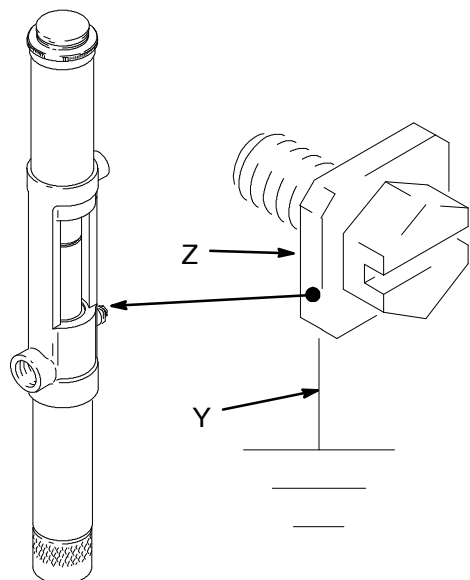

Fig. 2
- *Pump:* Use a ground wire and clamp as shown in Fig. 2.
**To ground the pump,** remove the ground screw (Z) and insert through the eye of the ring terminal at end of ground wire (Y). Fasten the ground screw back onto the pump and tighten securely. Connect the other end of the wire to a true earth ground. *To order a ground wire and clamp, order Part No. 222011.*